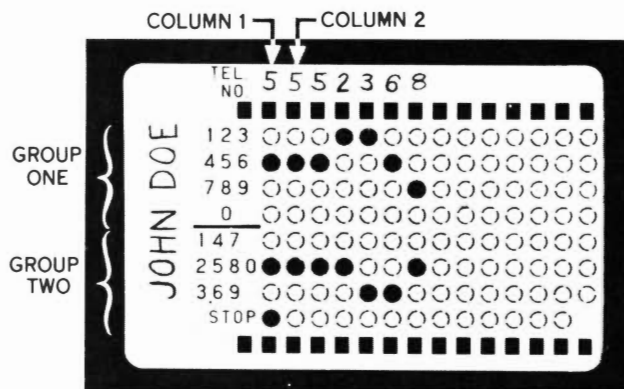

Fig. 3 - Card Coded for 7-Digit Telephone Number
- (1) Write name and telephone number in spaces provided as shown in Fig. 3 and 4.
- (2) Convert exchange letters to numbers. For example use 2 for A, B, or C and 7 for P, R, or S.
- (3) In Fig. 3 the first digit of the telephone number is 5. In column 1, locate digit 5 in the first group of numbers and punch out the perforation with a pencil or ball-point pen. In the same column, locate digit 5 in the second group of numbers and again punch out the perforation.